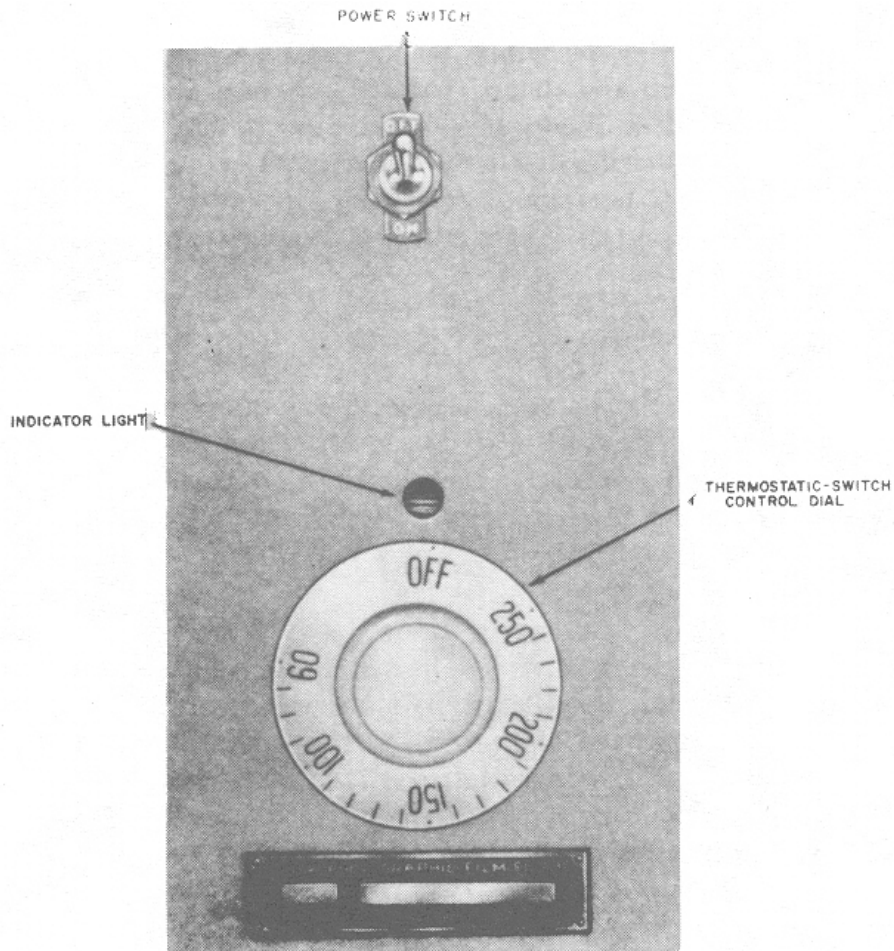

FIGURE 3-6. Operating controls.
b. Controls and their uses (figure 3-6). The following chart lists the controls and their functions.